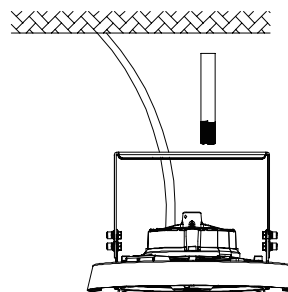

FIGURE 9
2. Insert 1/2" NPT stem into the bracket hole (Figure 9)